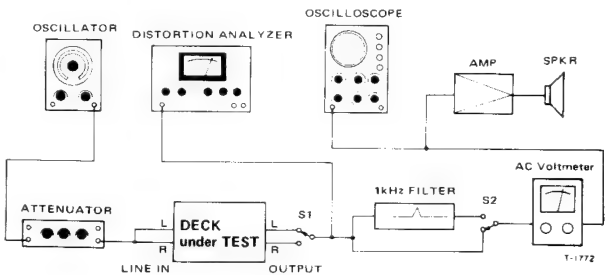

Fig. 5-1 Basic test setup
| 16. Erase efficiency | <ul style="list-style-type: none"> • Connection is same as in Fig. 5-1, but engage 1-kHz filter. • Record a 1-kHz signal. Rewind tape to midpoint of recorded portion. Record a "no signal" portion. Find the difference between the 1-kHz portion and the "no-signal" portion. | | | | |
| 17. REC MUTE function | <ul style="list-style-type: none"> • Connection: Fig. 5-1, but engage 1-kHz filter. • Record a 1-kHz signal. Push REC MUTE button for several seconds. (At this time, make sure LED on the button lights). Rewind and play the tape. Find the difference between the 1-kHz portion and the "no-signal" portion. | | | | |
| 18. Channel separation | <ul style="list-style-type: none"> • Connection Fig. 5-1, but do not connect LINE IN (R), and engage 1-kHz filter. • Set the deck to record mode. Find the difference between the 1-kHz recorded portion (L-ch) and the "no signal" portion (R-ch). | | | | |
| 19. Adjacent track crosstalk | <ul style="list-style-type: none"> • Connection: Fig. 5-1, but do not connect LINE IN (L) and OUTPUT (L). • Record a 125-Hz signal on R-ch and note output level. Invert tape and play R-ch track. Check leakage level against the output reference of previously recorded portion. | | | | |